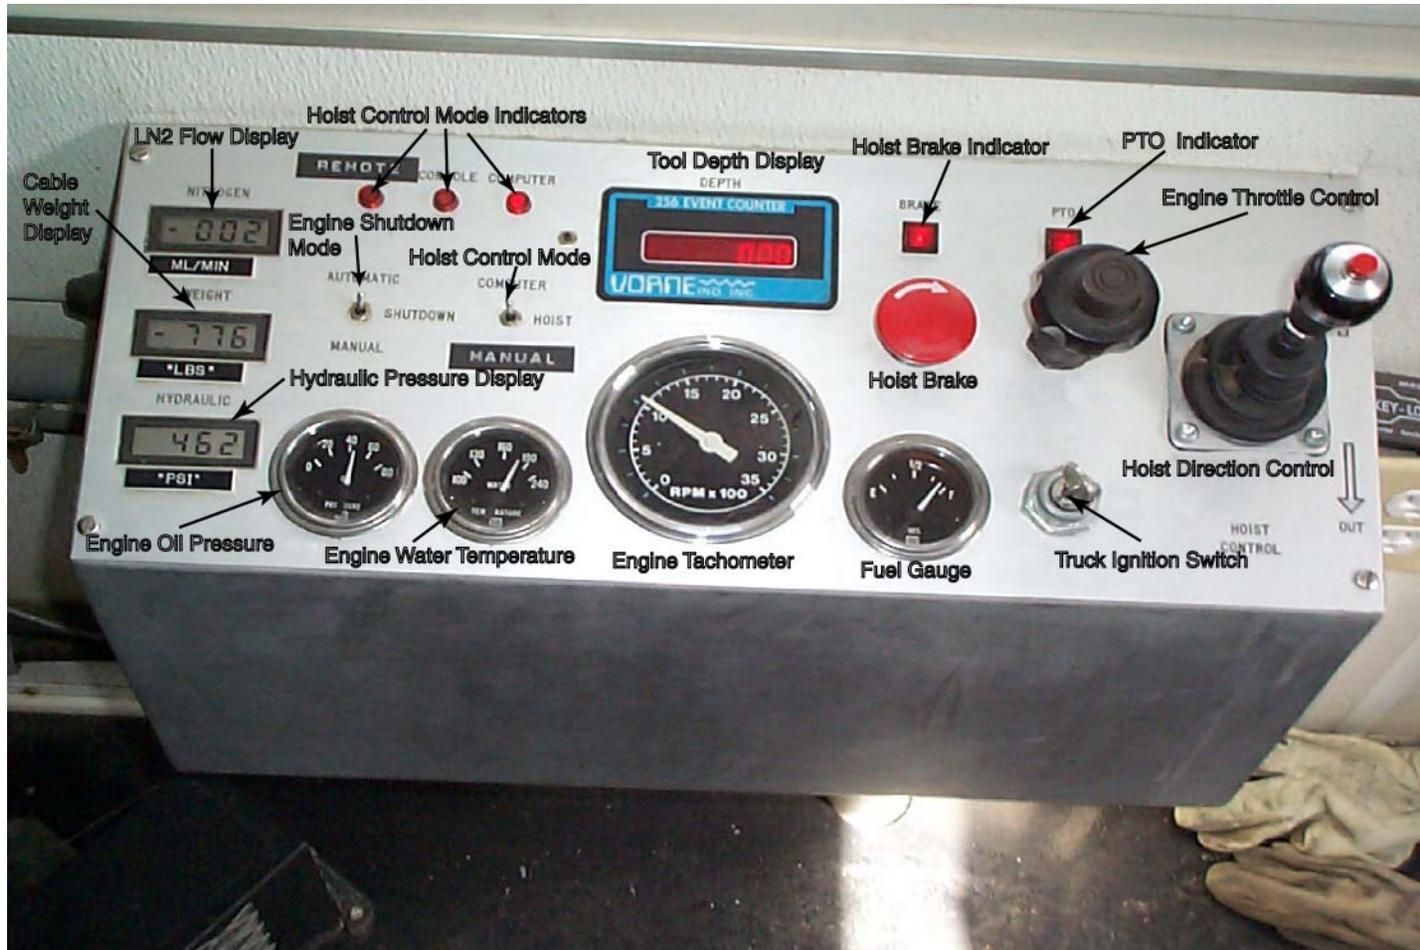

Figure 11. Operations Console
The Operations Console (OC) represents the control interface where trained personnel control and monitor the various operations affecting the vehicle and hoist (Figure 11).
From the OC, a tachometer gauge and multi-functional throttle knob control the vehicle's engine speed (Figure 11). The tachometer displays the vehicle engine speed in units of RPM and the throttle knob increases or decreases the engine's speed. The remote throttle control is connected directly to the engine; consequently, engine speed can be adjusted independently of the vehicles configuration from this control.
A multi-directional control handle or joystick labeled “Hoist Control” is used for operating the hoist (Figure 11). Three functions are performed with the control handle including reeling ON and/or OFF logging cable and engaging the high-speed (30 ft/min) side of the hoist. High-speed is engaged by depressing the small red button on top of the joystick and terminated when the button is released. The functionality of the hoist is described in Section 3.3.2.
A large red knob on the OC is the hoist brake (Figure 11). To apply the brake, depress the knob until it locks in place and a red LED labeled “Brake” above the knob illuminates. Twisting the knob releases the brake. The functionality of the hoist brake is described in Section 3.3.2.
The hoist operates in either *Computer* or *Manual* mode; select *Computer* mode (Figure 11). In *Computer* mode, the CASASII LOG program is in control of the hoist and a red LED labeled “Computer” illuminates on the OC. The joystick also operates under *Computer* mode.
A digital display, labeled “Hydraulic,” shows the hydraulic fluid pressure in pounds per square inch (PSI) in the PTO-driven pump that powers the hoist and crane (Section 3.3.2) (Figure 11). A hydraulic pressure transducer relays the hydraulic pressure to the OC and CASASII LOG
A digital display labeled “Weight” shows the weight in pounds being exerted on the logging cable (Figure 11). A load cell between the crane and sheave wheel (Figure 5) relays the weight to the OC and CASASII LOG program through the Sensor Panel. Too much weight will invoke the hoist brake by the CASASII LOG program and interrupt logging. The hardware and alarm limit data file is set up to invoke the hoist brake if the load sensor exceeds 3,000 lbs.
A digital event counter labeled “Depth,” manufactured by Vorne Industries, displays sonde depth (Figure 11). An optical sensor on the sheave wheel assembly counts electronic pulses as the sheave wheel turns (Figure 5). The counts are scaled and displayed as depth in real time in units of feet. Data signals are sent to the OC and CASASII LOG computer through the Sensor Panel. To reset depth to “0.00 ft” a button on the display’s faceplate is depressed that clears the last value displayed.
A digital display labeled “Nitrogen” is used to monitor the exhaust flow of LN₂ (Figure 11). LN₂ is monitored when spectral gamma-ray data are acquired using high-purity germanium (HPGe) detectors. To measure LN₂ flow, a model 100-7 Flo-Sensor, manufactured by McMillan Co., is located inside the OC. Once measured, the LN₂ is safely vented to the atmosphere through the floor of the instrument cabin. The Flo-Sensor is capable of measuring LN₂ flows ranging between 400 – 2,000 milliliters per minute (ml/min) and sending data in real time to the OC and CASASII LOG program through the Sensor Panel.